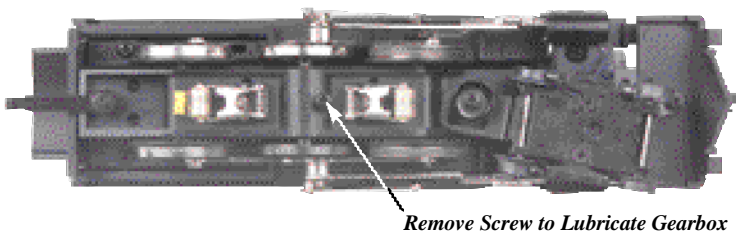

Figure 5 - Accessing the Gear Box to Lubricate
1. Remove screw beneath center drive wheels. (See Fig 5)